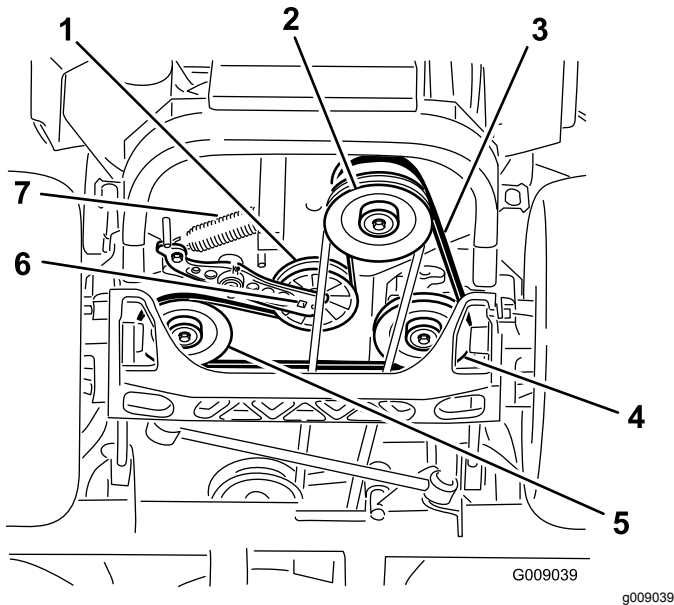

Figure 79
4. Raise the machine and support it with jack stands (Figure 79).
5. Use a ratchet in the square hole in the idler arm to remove the idler spring (Figure 79).
6. Unhook the idler spring from the frame (Figure 79).
9. Using a ratchet in the square hole in the idler arm, install the idler spring to the frame (Figure 79).